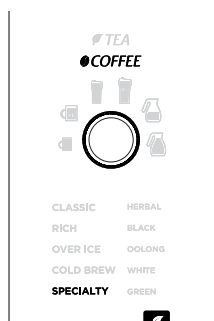

Fig. 17
- 4 Turn the START/DÉMARRER dial to choose SPECIALTY (Fig. 17). If brewing tea, press the Tea button  to toggle to the tea menu, and use the dial to choose your tea type. To change your brew style while in the tea menu, press the Tea button  again.